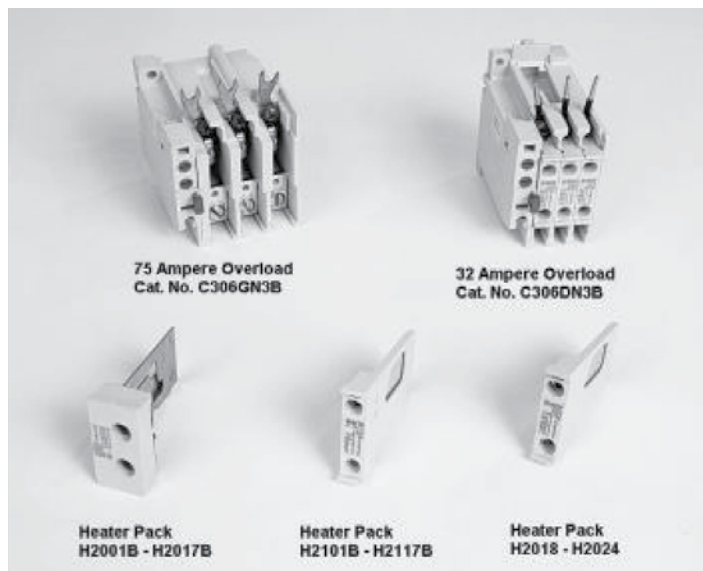

Figure 25. C306 thermal overload relay and heater pack
C306 thermal overload relays (Figure 25)
- Class 10 or 20 heater packs (Figure 25). Use Class 10 heaters with fusible or thermal-magnetic breaker disconnects only